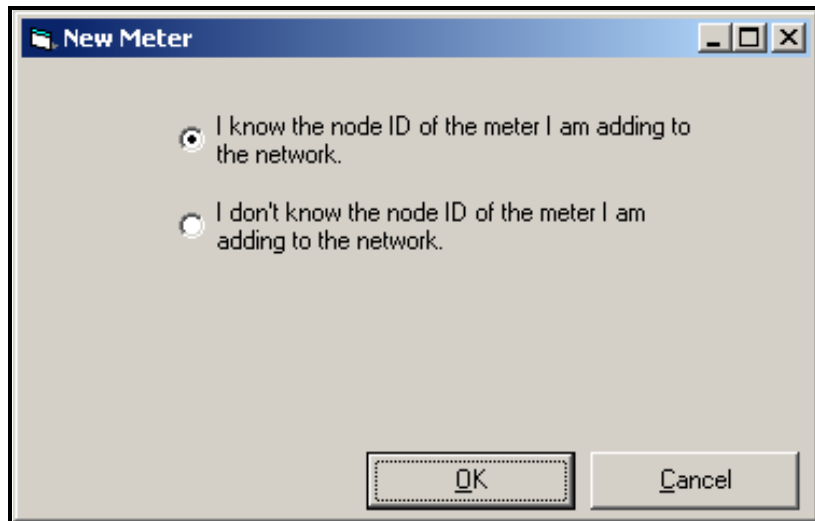

Figure 39: Instrument Node ID Acknowledgement
If the node ID is known, select “I know the node ID of the meter I am adding to the network,” then click the OK button (see Figure 39 below). If the node ID is not known proceed to page 69)
**Note:** The network referred to in Figure 39 below is the network of meters under a single communication port. Up to sixteen meters can be connected to form a PanaView™ meter network.